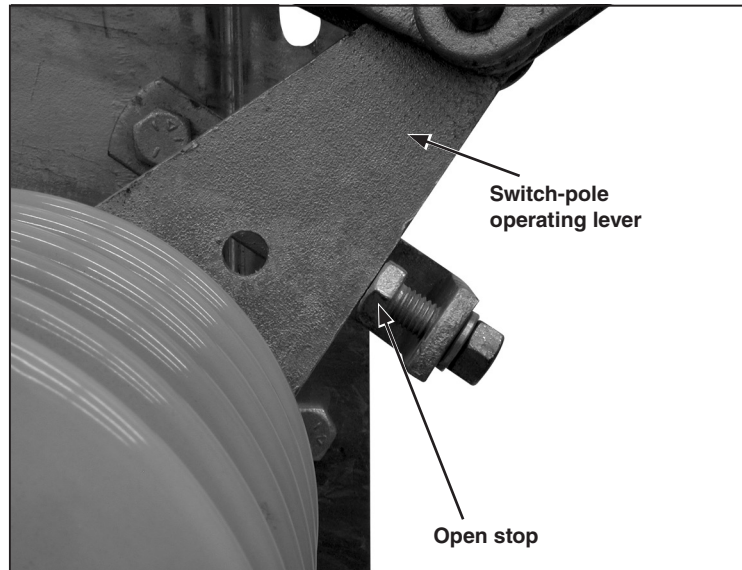

Figure 40. Verify the switch-pole operating lever is against the open stop.
STEP 32. With the operating handle as far as it will go in the opening direction, the switch-pole operating lever should lie snugly against its open stop. See Figure 40. If necessary, readjust the **Open** position stop plate on the foot-bearing support plate.